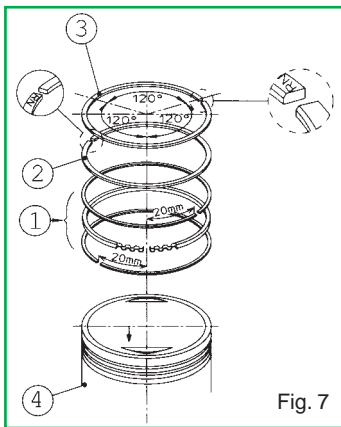

Fig. 7
- Insert the oil scraper ring expander in the appropriate slot on the piston, insert the lower oil scraper element and then the upper oil scraper completing the oil scraper assembly (Fig. 7 - Part 1).
- Fit the second piston ring with the N printing facing the upper part of the piston as shown in Fig. 7 - Part 2.
- Fit the first compression ring with the N printing facing the upper part of the piston as shown in Fig. 7 - Part 3.
- Position the openings of the cuts of the piston rings as shown in Fig. 7.
- Place the piston on the connecting rod and insert the new pin. Make sure that the arrow stamped on the piston crown is facing the exhaust side (Fig. 7 - Part 4).
- Check once again if the piston ring cuts are placed as shown in Fig. 7.